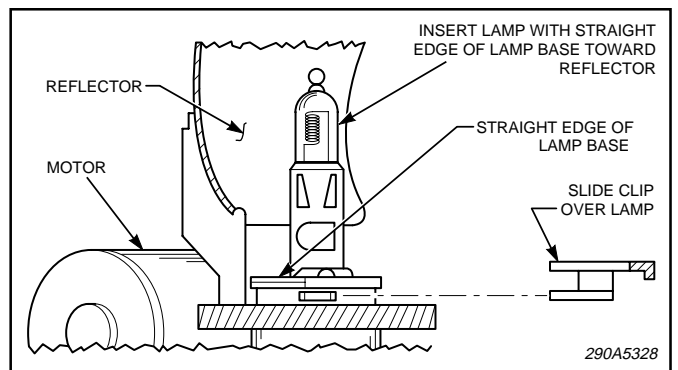

Figure 4.
b. See figure 4. Note the lamp's orientation and replace the lamp (Federal Part No. 8440A265) with the straight edge of the lamp's base toward the reflector.